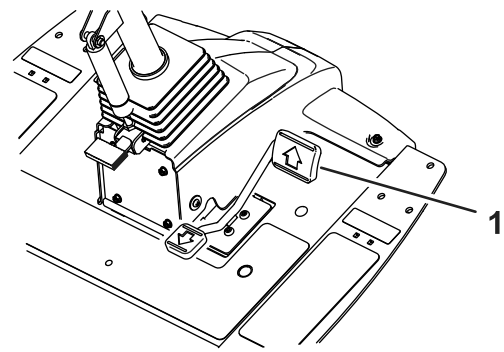
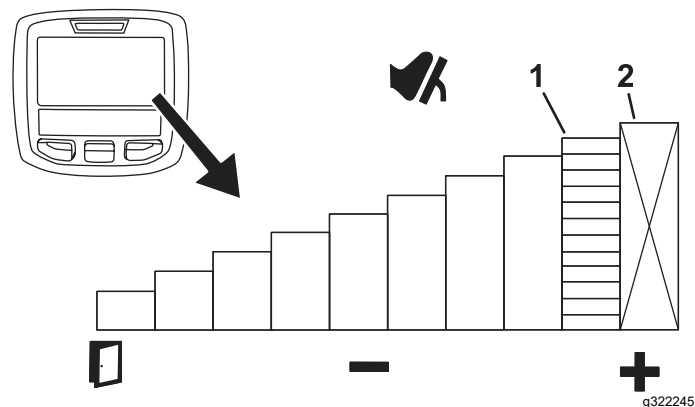

Figure 27
Figure 28
To temporarily set the maximum speed of the machine, press the traction pedal fully forward (Figure 27). You can set a separate speed for the mow range and transport range (Figure 28).
- To access this feature, select the InfoCenter middle button from the main screen (Figure 28).